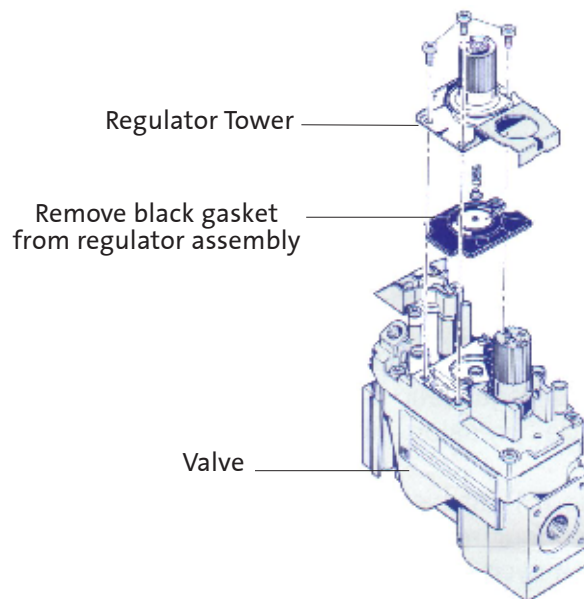

Figure 17 Regulator assembly.
13. **Replace the Variable Regulator.** Using a Torx T-20 screwdriver, remove the three screws from the front of the valve regulator. See fig. 17.
14. Remove the Regulator Tower, Gasket, white plastic disk, and Spring. Remove the black rubber gasket from the valve. See fig. 17.